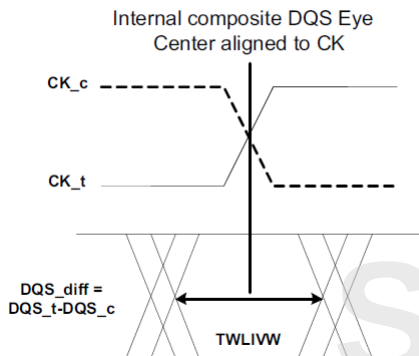

Figure 25. DQS\_t/DQS\_c to CK\_t/CK\_c timings at the DRAM pins referenced from the internal latch
- 28)  $t_{WLIVW}$  is defined in a similar manner to  $t_{DQSV}$ , except that here it is a DQS input valid window with respect to CK. This would need to account for all VT (voltage and temperature) drift terms between CK and DQS within the DRAM that affect the write-leveling input valid window. The DQS input mask for timing with respect to CK is shown in Figure 25. The "total" mask ( $t_{WLIVW}$ ) defines the time the input signal must not encroach in order for the DQS input to be successfully captured by CK with a BER of lower than tbd. The mask is a receiver property and it is not the valid data-eye.